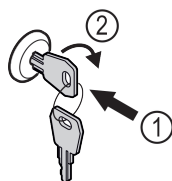

Fig. 87 Example illustration
- Insert key Fig. 87 (1).
- Turn key clockwise by 90° Fig. 87 (2).